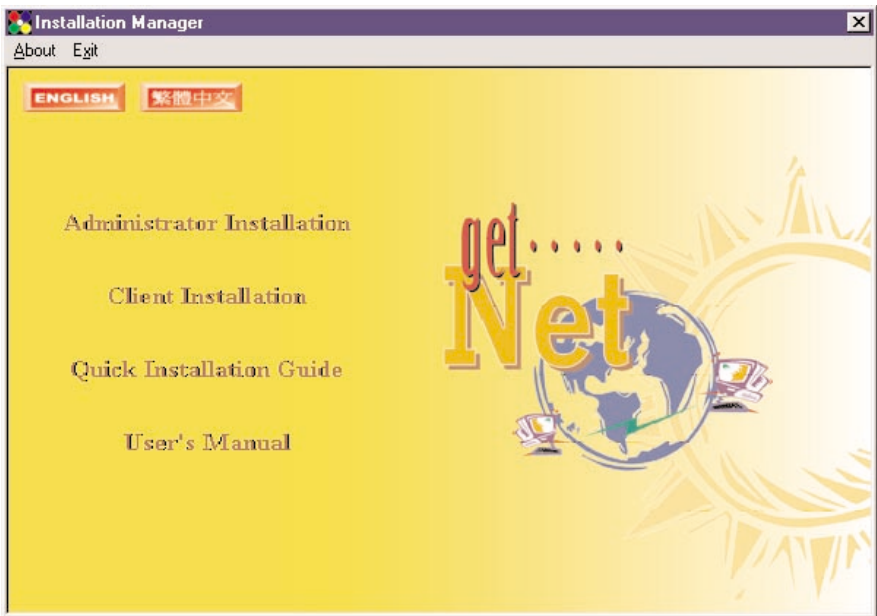

Figure 4-2. Installation Manager screen.
2. The Installation Manager will appear (see Figure 4-2).